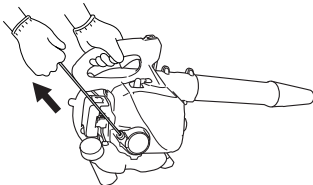

Fig. 7
3. Pull recoil starter briskly, taking care to keep the handle in your grasp and not allowing it to snap back. (Fig. 7)